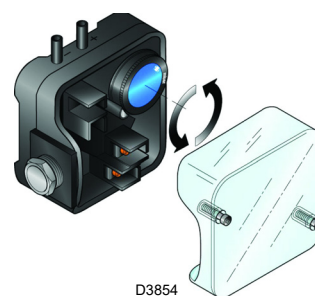

Fig. 35
- Adjust the air pressure switch (Fig. 35, a pag. 33) to the start of the scale.
Adjust the air pressure switch after performing all other burner adjustments with the air pressure switch set to the start of the scale (Fig. 35).